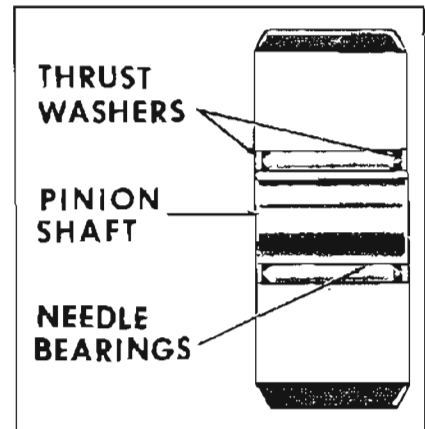

Figure 5-280
10. Install twenty (20) needle bearings, and one thrust washer in the pinion gear. See Figure 5-280. With a twisting motion, lock the needle rollers in place. See Figure 5-280A.